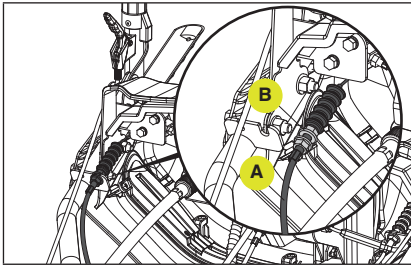

Figure 55
2. Locate the auger control cable (A), connected to the auger control lever on the left side (from behind the snowblower) under the control panel.
3. Slide back the rubber boot and loosen the tops nuts (B) on each end of the cable. (Fig. 55)